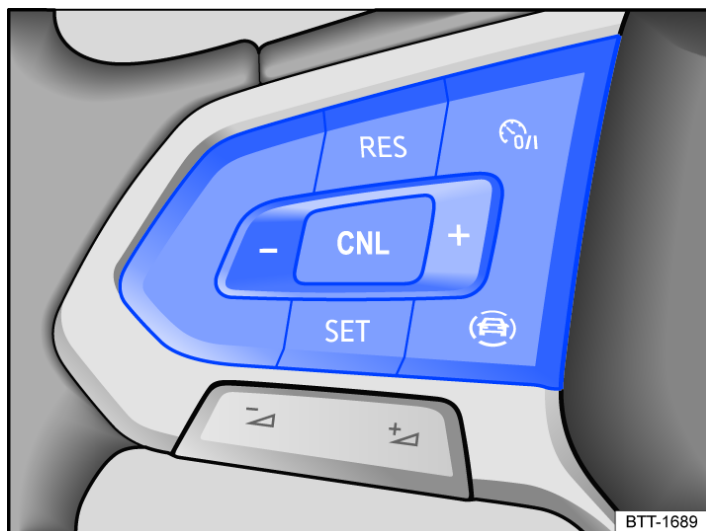

Fig. 1 Left-hand side of the multifunction steering wheel: buttons for operating the speed limiter.
- Press the → *Fig. 1*  button.